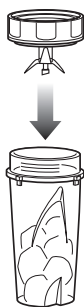

Fig. 9
- 4 Place the Nutri Ninja Blade Assembly onto the cup and tightly screw it on clockwise until you have a good seal. (Fig. 9)